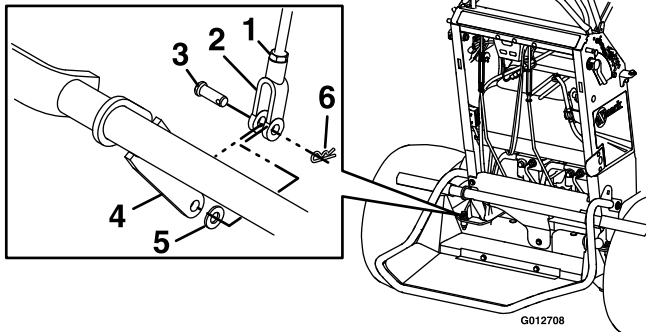

Figure 28
4. To adjust the brake, remove the hairpin, washer, and clevis pin from the lower brake lever and yoke as shown in Figure 28.